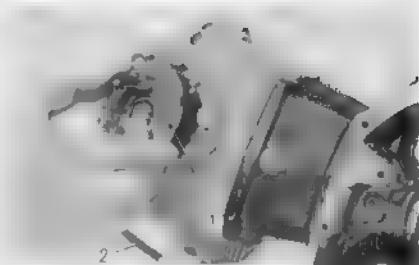

Fig. 3.14 Contact breaker assembly ① and lead wire ②.
5. Remove the contact breaker assembly ① and disconnect the lead wire ②. (Fig. 3.14)